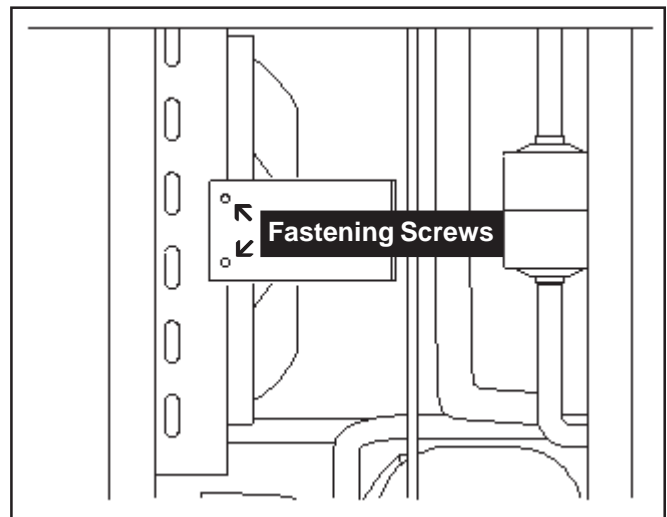

Figure 48. Fan Installation
1. Assuming the necessary panels have been removed to remove a defective condenser fan, install a new condenser fan bracket through the side of the freezer and align the holes in the fan brackets with the holes in the condenser fan shroud attached to the freezer frame (Fig.48).